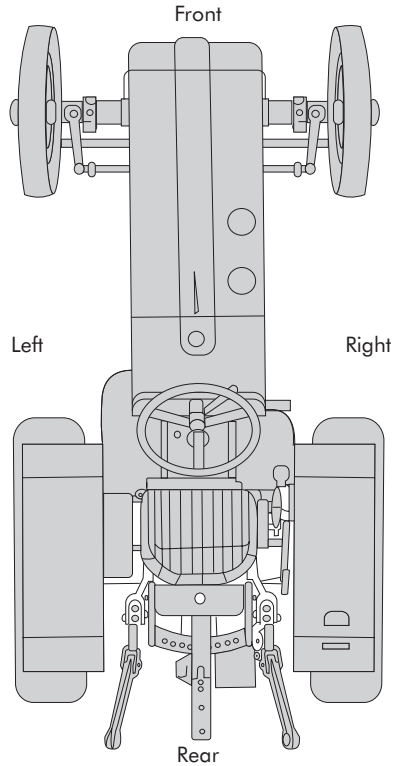

Fig. 4.0
- Throughout this manual, the use of the terms left, right, front and rear must be understood (fig. 4.0).